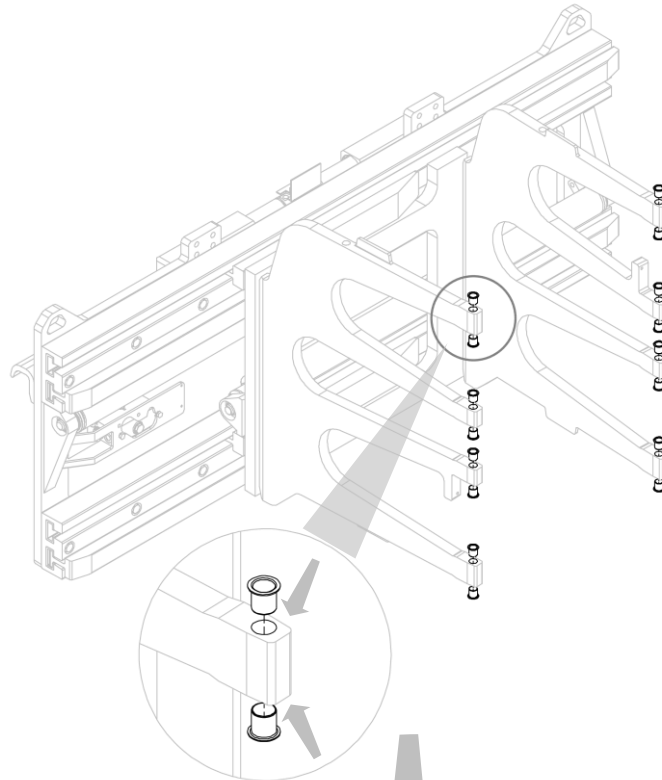
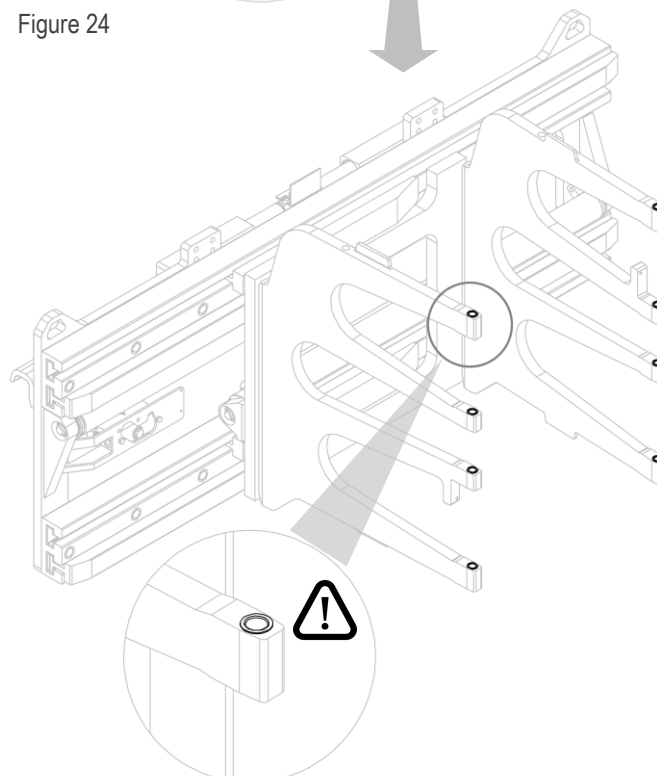

Figure 24
Figure 25
2. Position the swing bushes into their housings (see *Figure 24* and *Figure 25*).